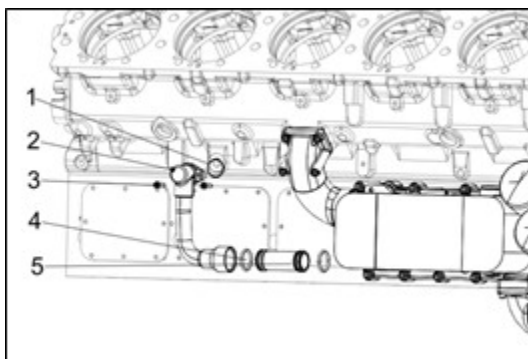

Figure 160
1. Remove the oil cooler oil outlet pipe (Fig 160, item 2), loosen the fixed bolts (Fig 160, item 3) take the oil outlet pipe, pay attention to the seal ring (Fig 160, item 1).